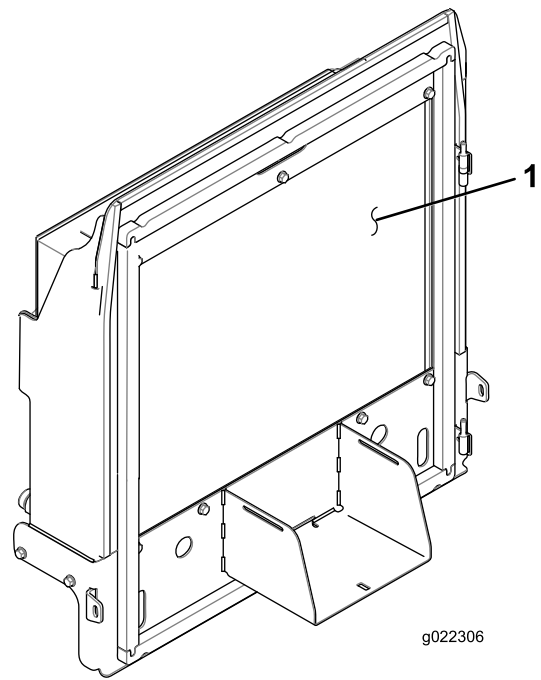

Figure 95
4. Thoroughly clean both sides of the radiator and oil cooler (Figure 95) with compressed air.